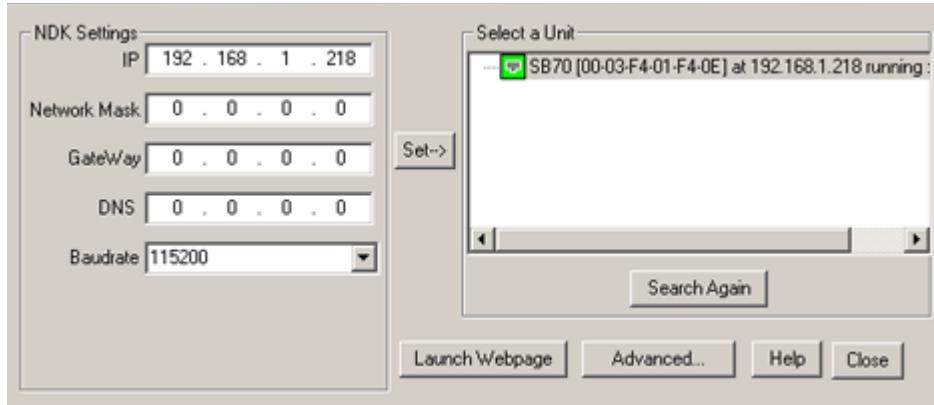
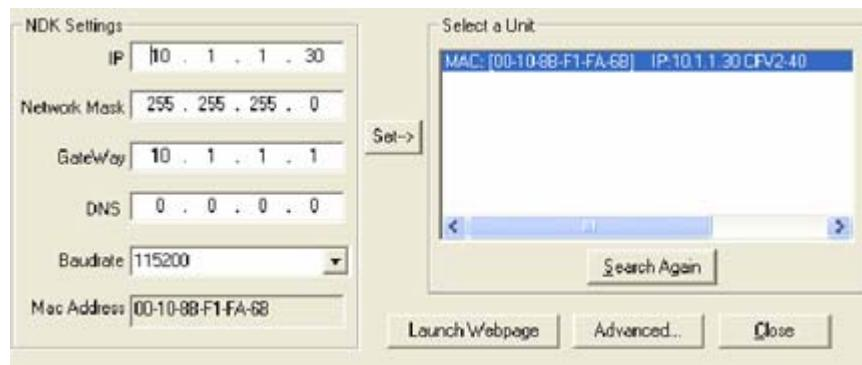

FIGURE 3-3. PS FIND SCREEN
FIGURE 3-4. SETTING A STATIC IP ADDRESS
The PSfind utility can be downloaded from the Kepco web site at www.kepcopower.com/drivers/drivers-dl3.htm#klp. This utility finds all operational Kepco power supplies connected to the LAN and then shows the pertinent addresses of the models found. To run the utility from your PC download the psfind.zip file to your computer. Extract psfind.exe from the zip file to a location of your choice, then double-check psfind.exe to run the application. A separate window opens as shown on Figure 3-3.
- To set a static IP address, enter the static address in the IP ADDRESS field and the Mask address in the Network Mask field (Figure 3-4 shows a the IP Address, Network Mask and Gateway changed from that shown in Figure 3-3), then highlight the desired unit and click the Set button. There will be a short pause while parameters are updated. If you do not see your device in the “Select a Unit” window, make sure it is turned on and connected to the network, then click the Search Again button.